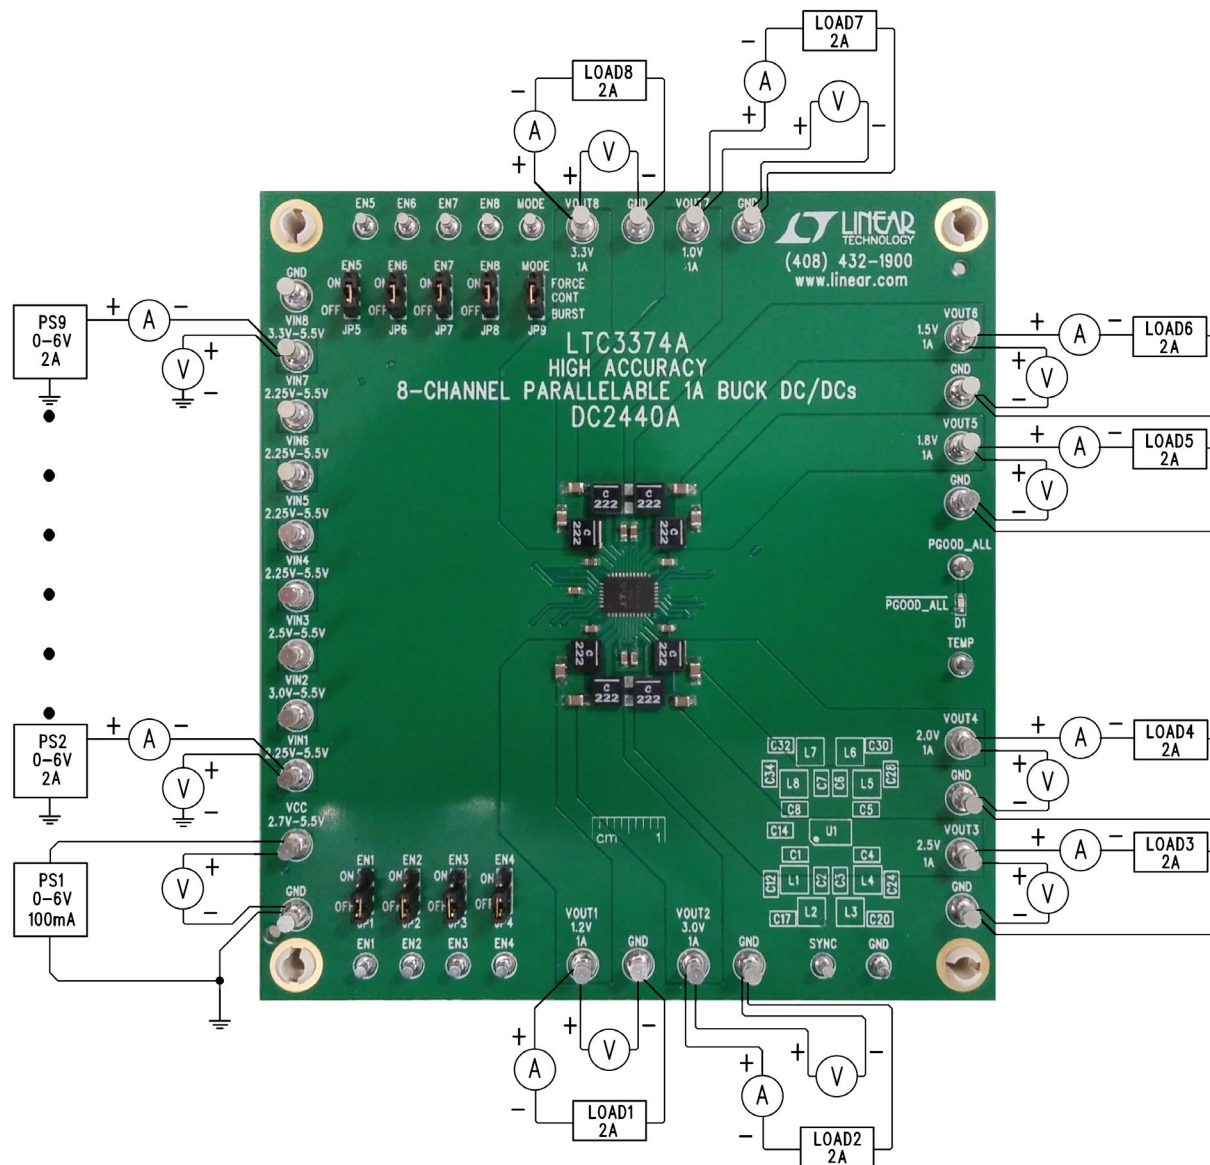
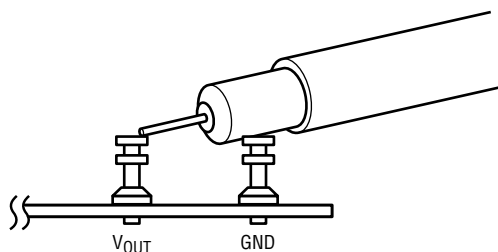

Figure 1. Proper Measurement Equipment Setup
Figure 2. Measuring Input or Output Ripple
The DC2440A is easy to set up to evaluate the performance of the LTC3374A. Refer to Figure 1 and Figure 2 for proper measurement equipment setup and follow the evaluation procedure below.
**Note:** When measuring the input or output voltage ripple, care must be taken to avoid a long ground lead on the oscilloscope probe. Measure the input or output voltage ripple by touching the probe tip directly across the  $V_{IN}$  or  $V_{OUT}$  and GND terminals. See Figure 2 for proper scope probe technique.
3. With power off, connect a 0V to 6V, 100mA power supply to  $V_{CC}$  and GND with a voltmeter as shown in Figure 1.
4. With power off, connect a 0V to 6V, 2A power supply to each  $V_{IN}$  and GND with a series ammeter and a voltmeter as shown in Figure 1. A single 0V to 6V, 10A supply can be used instead to supply all  $V_{IN}$  inputs simultaneously.
7. With power off, connect a 0A to 2A load to each  $V_{OUT}$  and GND with a series ammeter and a voltmeter as shown in Figure 1.
8. Slowly increase LOAD1 from 0A to 1A and observe the output voltage. The output ripple may also be observed using an oscilloscope with the probe connected as shown in Figure 2.